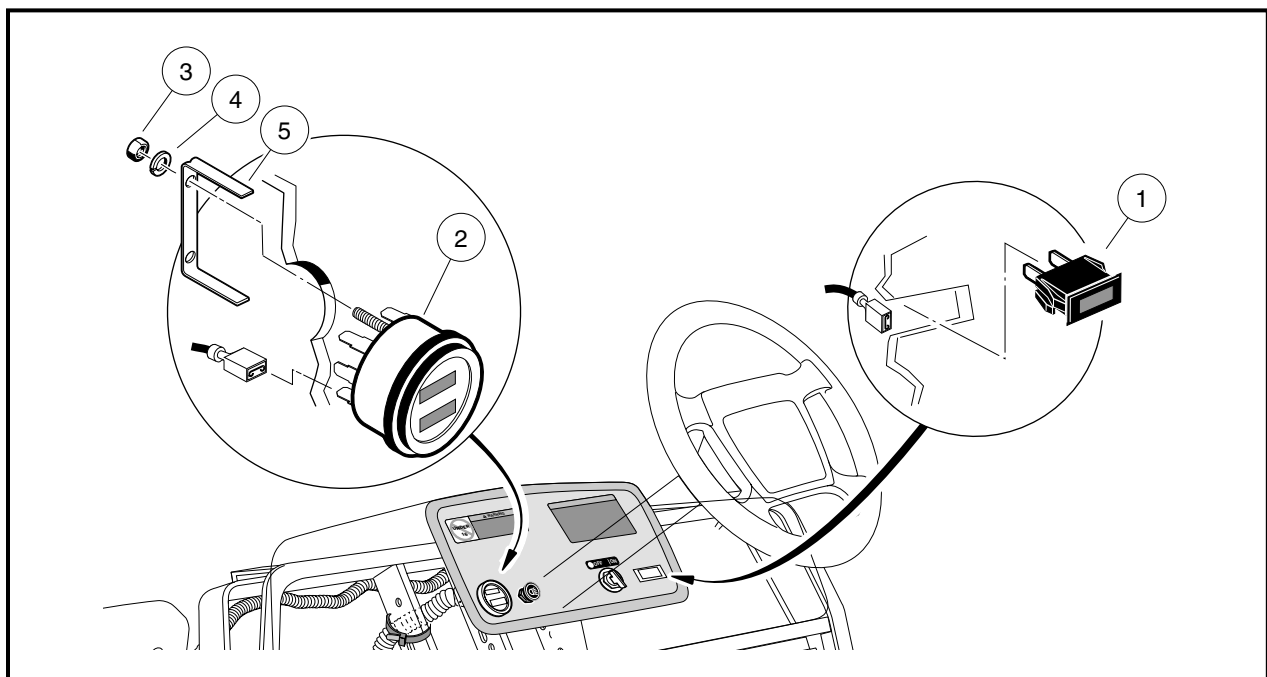

Figure 12b-23 Fuel Gauge/Hour Meter and Oil Warning Light Installation
5. Connect the orange wire to the common (COM) black wire terminal and the red/white wire to the normally open (NO) blue wire terminal of the reverse buzzer limit switch (4) (**Figure 12b-20, Page 12b-20**).
6. Disconnect the wires from the oil warning light (1) (**Figure 12b-23, Page 12b-23**). Do not allow wires to touch.